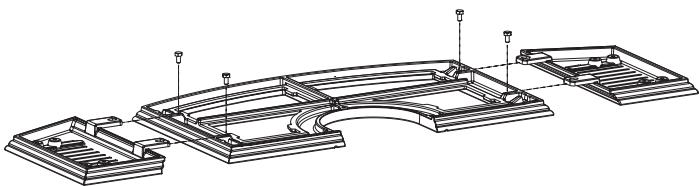

Figure 22
4. Place left and right side shelves in place shown in Figure 22.
8. Attach side shelf supports one at a time, using two  $\frac{1}{4}$ -20 hex head bolts per support, sliding support flush to casting before fully tightening bolts as shown in Figure 22.
**NOTICE:** Due to inherent properties of the casting process, non-combustible shims may be required to level accessory side shelves to the casting top. These shims are provided in the form of washers to be used on either side of the bolts. See Figure 22. If accessory shelf angles downward, toward the floor, washer(s) will need to be added to the center side of the bolt. Conversely, if the accessory side shelf angles upward, toward the ceiling, washer(s) will need to be added to the outside of the top casting side of the bolt. See Figure 25.